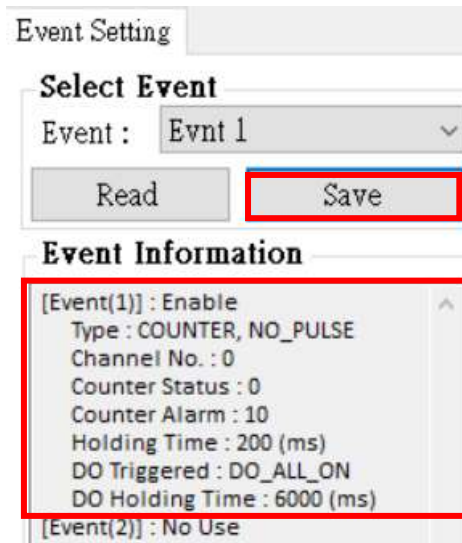

Figure 6.10.30
K. After setting, select “SAVE” to save as shown in Figure 6.10.30. Complete the list below and the setting will be displayed